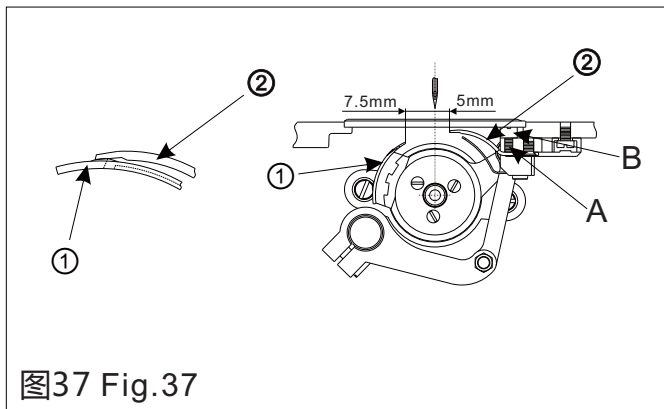

图37 Fig.37
### 6.刀片的调整 (图37)
6. Adjusting the knives(Fig.37)